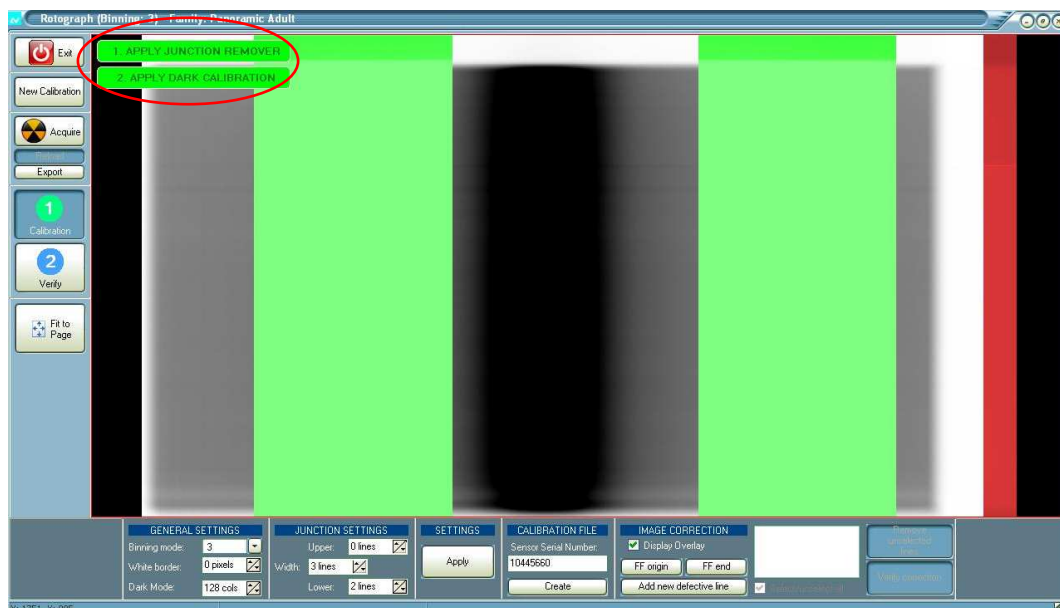

Figure 7-17
9. Press the button "APPLY JUNCTION REMOVER" and "APPLY DARK CALIBRATION" (Figure 7-17).
8. Press the button "APPLY JUNCTION REMOVER" and "APPLY DARK CALIBRATION" (Figure 7-17).